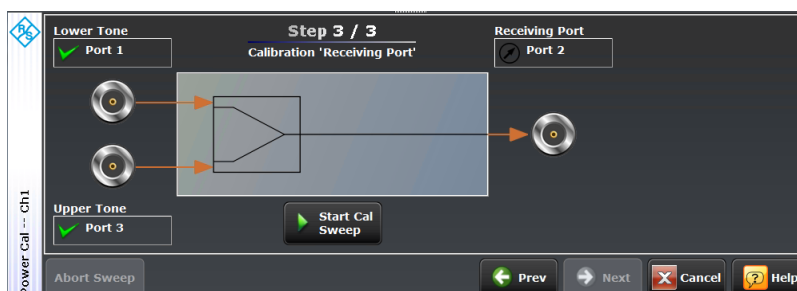

Figure 13 - Power calibration of the receiving port using the lower tone
3. With the two sources calibrated, the port allocated to the **Lower Tone** is then automatically configured to provide a reference tone at the receiver frequency range for calibration of the **Receiving Port**, as shown in Figure 13. The user is prompted to connect the combiner output to the **Receiving Port** and then press “**Start Cal Sweep**”.